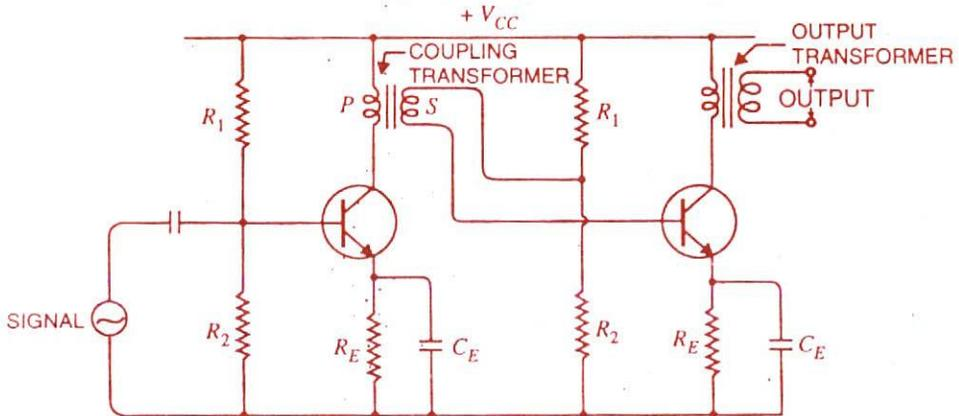

Fig. 13.13
Transformer coupling is generally employed when the load is small. It is mostly used for power amplification. Fig. 13.13 shows two stages of transformer coupled amplifier. A coupling transformer is used to feed the output of one stage to the input of the next stage. The primary  $P$  of this transformer is made the collector load and its secondary  $S$  gives input to the next stage.
**Operation.** When an a.c. signal is applied to the base of first transistor, it appears in the amplified form across primary  $P$  of the coupling transformer. The voltage developed across primary is transferred to the input of the next stage by the transformer secondary as shown in Fig.13.13. The second stage renders amplification in an exactly similar manner.